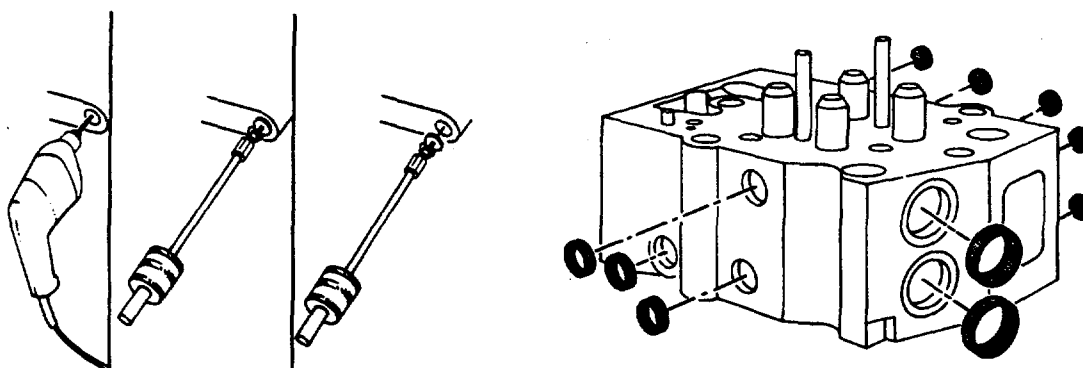

FIGURE 4-4. Cup Plug Removal.
- (2) Remove valve collets (2), spring retainer (4), spring (5), spring guide (3), and valve (8).
- (3) Repeat procedure for each of four valves.
- (4) Clean parts and check for broken springs, bent crosshead guides or other damage (refer to step a of this procedure).
- (5) Use a drill, a sheet metal screw and a slide hammer and hook from the light duty puller kit to remove 10 cup plugs (FIG. 4-4).